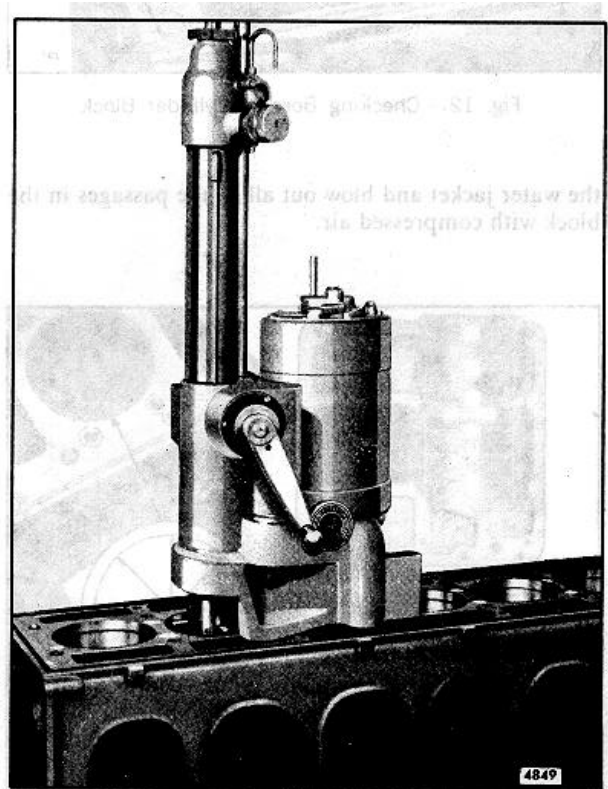

Fig. 15. Boring Cylinder Block with Portable Boring Bar
- b. A typical commercially available portable boring bar is illustrated in Fig. 15. Instructions on correct use of the boring bar are provided by the manufacturer.